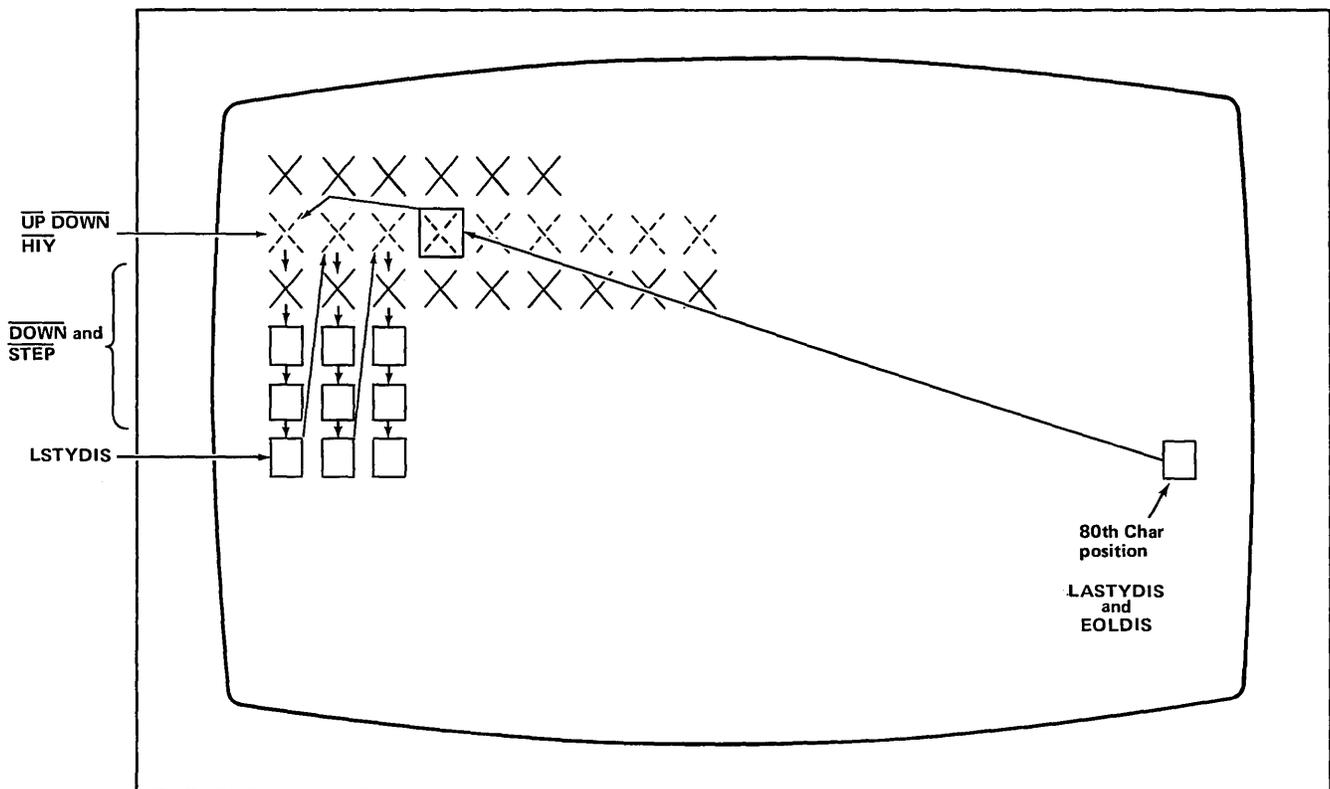

Fig. 6-8. Inserting a line (assume cursor is in 19th line).
**INSERT LINE.** Refer to Fig. 6-8. Initiating this function sets  $\overline{DMA}$  active from the Edit Card. The Edit Card also sets  $\overline{UP}$ ,  $\overline{DOWN}$ , and  $\overline{HIY}$  active, and at  $\overline{STEP}$  time loads the Y Cursor Register count into the Y Display Register.  $\overline{CLR\bar{X}}$  clears the X Display Register causing the output count to reflect the left margin position. The output of the Display Register is now the address for the memory. If a character